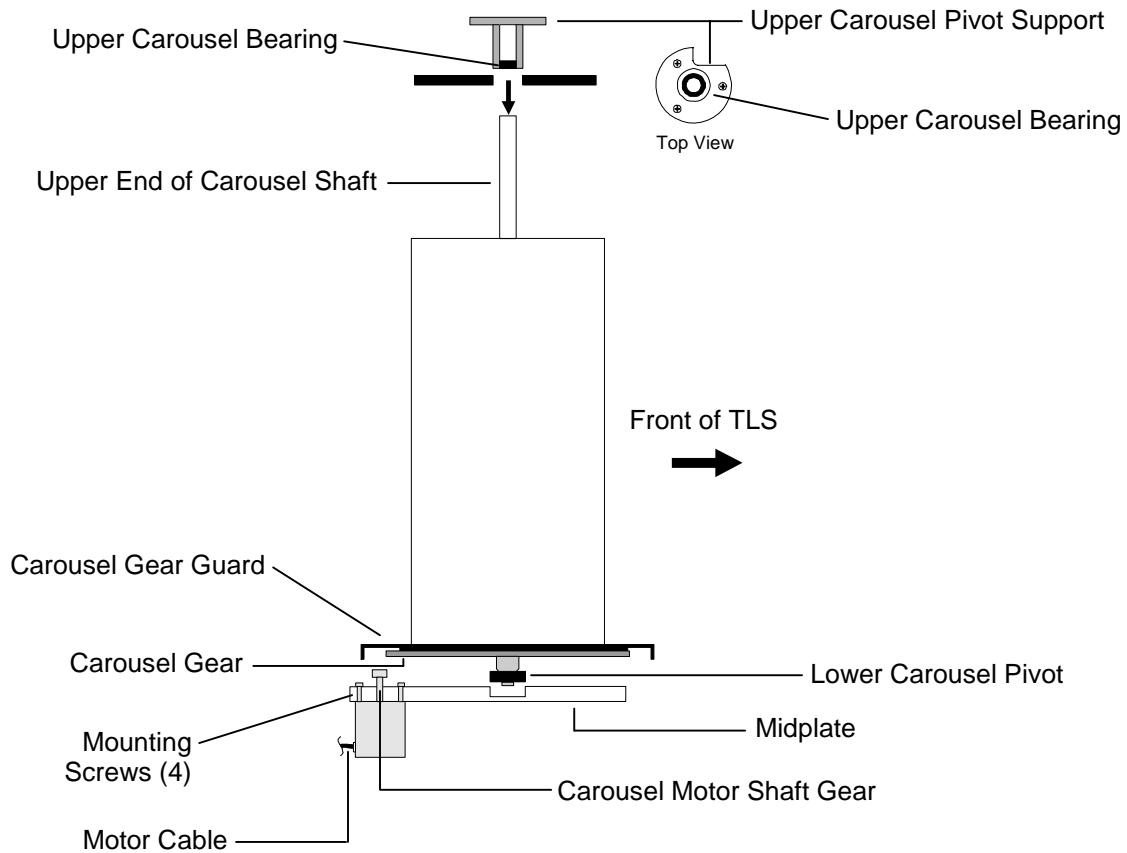
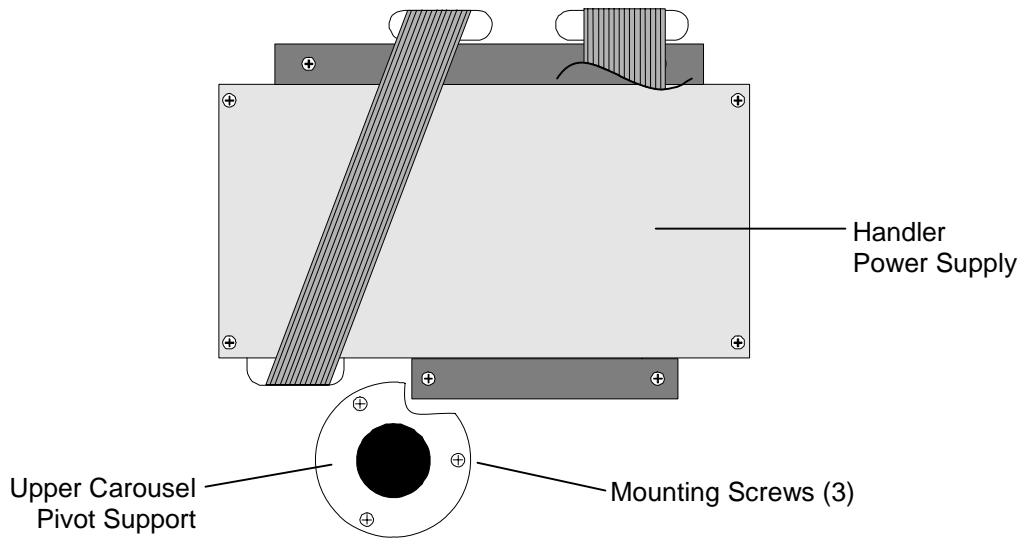

Figure 9-6 The Carousel Assembly
Figure 9-7 TLS Top View
Be careful not to damage the Carousel Position Sensor with the Carousel Gear Guard when you install the Carousel (Figure 9-4 and Figure 9-6).
2. Align the lower Carousel Bearing with the Midplate, then lower the Carousel down into place (Figure 9-6). Use caution as to not damage the Carousel Gear or the gear on the Carousel Motor shaft as you lower the Carousel into position.
3. Align the upper end of the Carousel Shaft with the Upper Carousel Pivot Support (Figure 9-6), and then lower the Upper Carousel Pivot Support down through the top of the TLS onto the upper Carousel Pivot (Figure 9-7).
Tighten the screws securely (Figure 9-7).